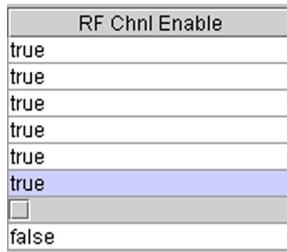

Figure 40. Setting Channel Enable
9. Use the last field on the right, **RF Chnl Enable**, to enable the channel if it will go into immediate use. To enable the channel, click on the field to set the displayed value to “true.” If the channel should not be enabled at this time, let it stay at the value “false.” When a value is changed in this field, a box appears temporarily as shown in Figure 40.